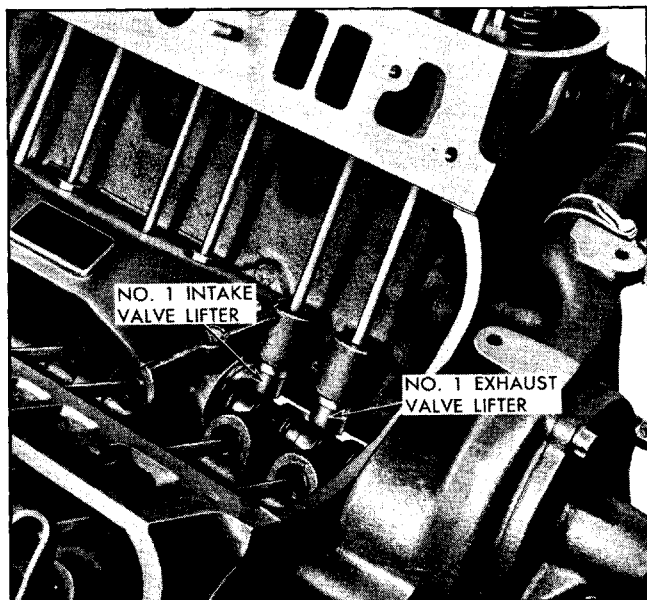

Fig. 6-75 Relationship of Lifters and Cams When Cylinder No. 1 is in Firing Position
a. Turn crankshaft to firing position of number one cylinder (number one exhaust and intake valve lifters both on the base circles of their cams (Fig. 6-75) and timing mark on harmonic balancer indexed with pointer).